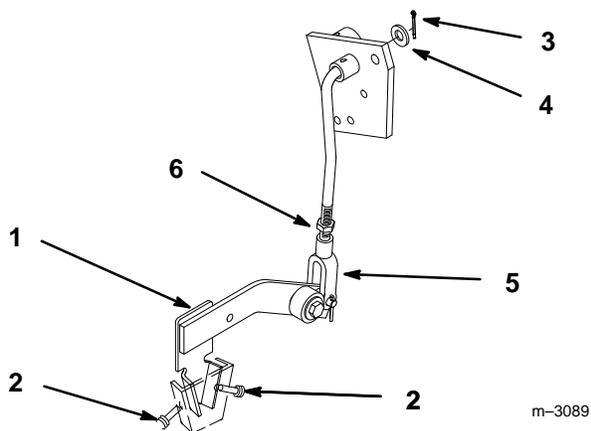

Figure 30
2. Lock-out lever should press firmly down between left and right neutral return rods (Fig. 30).
3. If adjustment is required, remove cotter pin and washer from lock-out adjusting rod and remove from brake arm (Fig. 30).
4. Adjust length of rod at trunnion, one turn at a time, shorten or lengthen and tighten jam nut (Fig. 30).
5. Secure adjusting rod to brake arm with washer and cotter pin (Fig. 30).